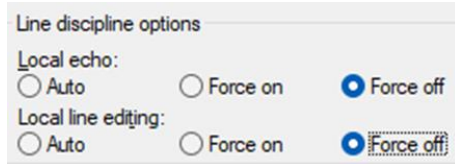

Figure 3.4: PuTTY: local line editing
8. Navigate to 'Terminal' and copy the terminal settings seen in Figure 3.4.